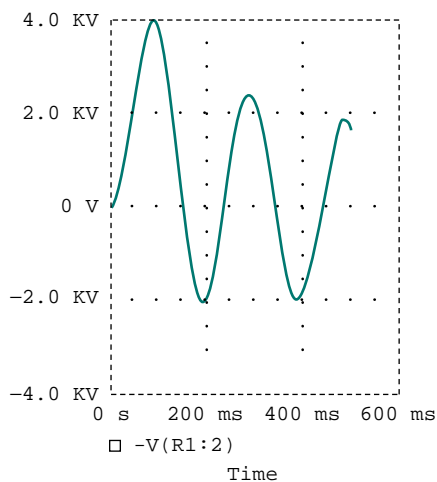

Figure D.34 Output plot for Practice Prob. D.4.
**Answer:** Figure D.34 shows the plot. Note that  $v(t) = 10e^{-0.25t} \cos 0.5t + 5e^{-0.25t} \sin 0.5t$  V.